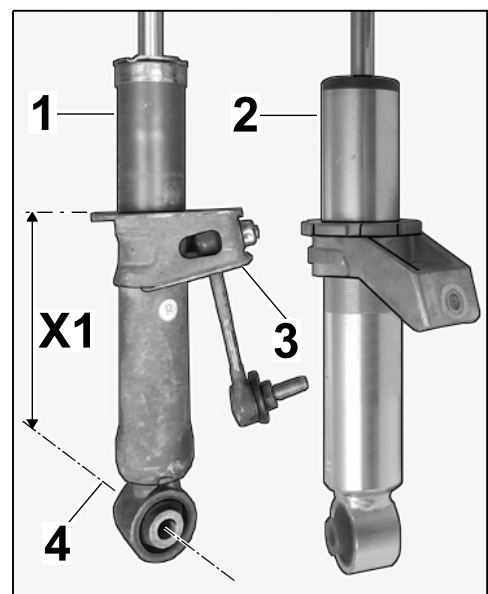

Figure 7
3.1 Measure dimension X1 (spring plate – lower/bushing for shock absorber ⇒ *Figure 7-X1-*) on the standard shock absorber.